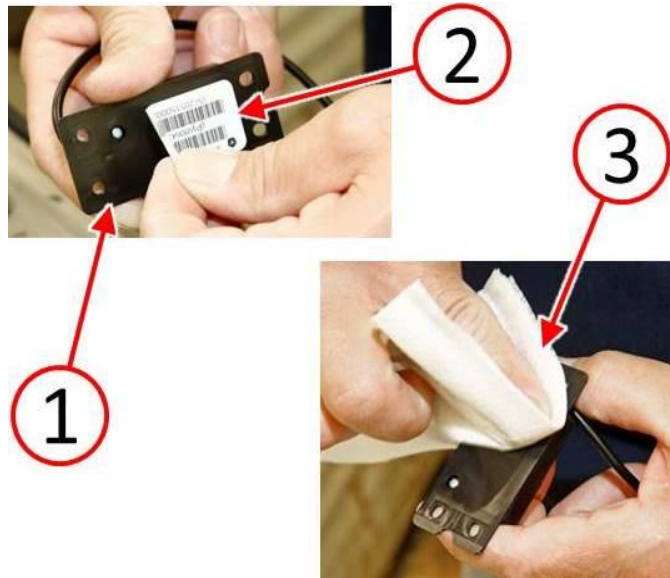

Fig. 21 Remove Label And Clean Alarm Sensor
46. Remove the label (2) from the back side of the alarm sensor (1) in order to improve adhesion of the sensor to the trim panel (Fig. 21).
47. Using a clean cloth (3), clean the back side of the alarm sensor with isopropyl alcohol, then apply 3M™ adhesion promoter or equivalent to the back side of the alarm sensor (Fig. 21).